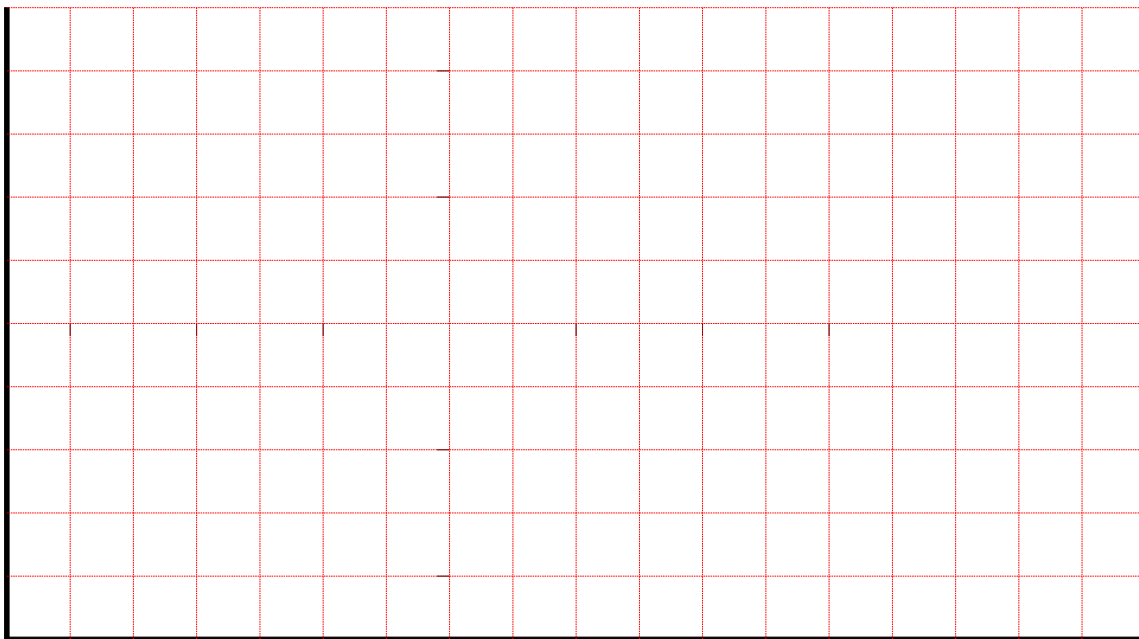

Figure 3 - Axis for Plotting Curve of Intact Statical Stability
11. Re-arrange the equation at (11) to derive an equation that can be used to calculate the internal righting arm being developed by the model (GZ).
13. On the axis at Figure 3 plot the curve of intact statical stability (**starboard heels only**) for a ship with the following stability characteristics. **Ensure to label all axes.**